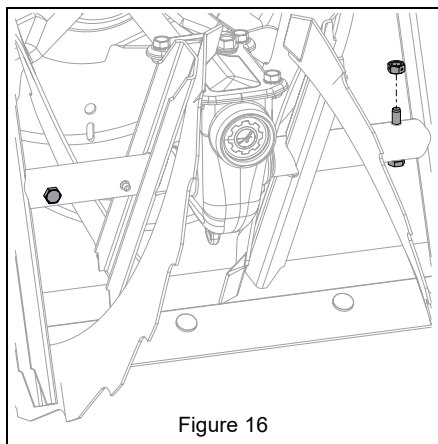

Figure 16
3. Hand rotate auger on auger shaft. See Figure 16.
See Figure 16.